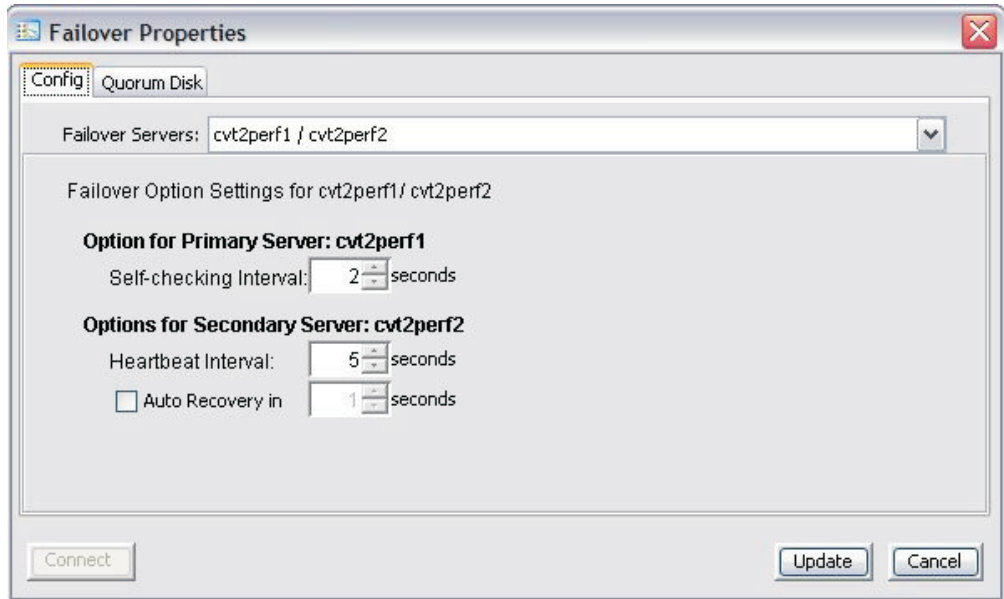

Figure 78. Failover Properties window: Config tab
3. ___ From the **Failover Servers** list, select the other Failover direction (for example, in Figure 78, select cvt2perf2/cvt2perf1).